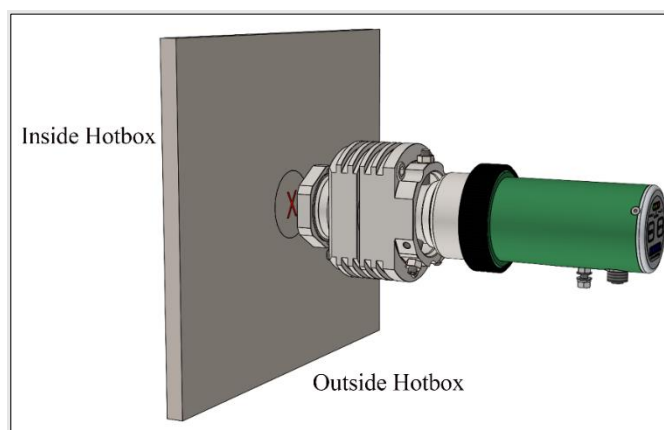

Figure 5-2: Mark the Location where mounting Transceiver
- Point out a suitable location and mark this with a marker pen. Take the alignment bracket, mount the transceiver, and hold this assembly up to the marked location to confirm that accessibility is satisfactory, and that line of sight is possible through the hotbox - Figure 5-2.